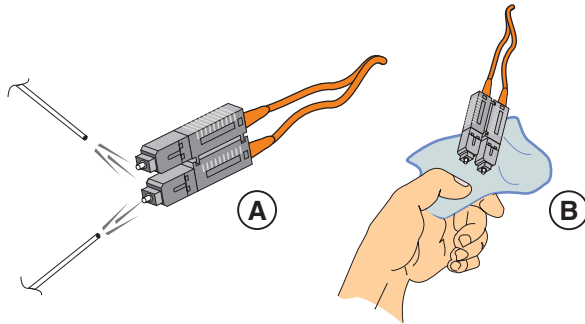

Figure 3-19: Clean Fiber-Optic Components
3. Gently wipe the end-face and other surfaces of the connector with an alcohol pad as shown in part B of Figure 3-19. Ensure the pad makes full contact with the surface to be cleaned. Wait approximately five seconds for surfaces to dry.